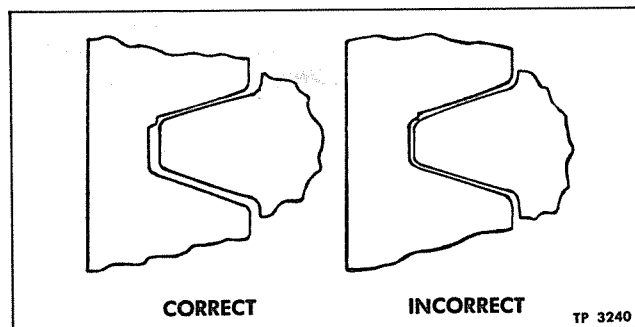
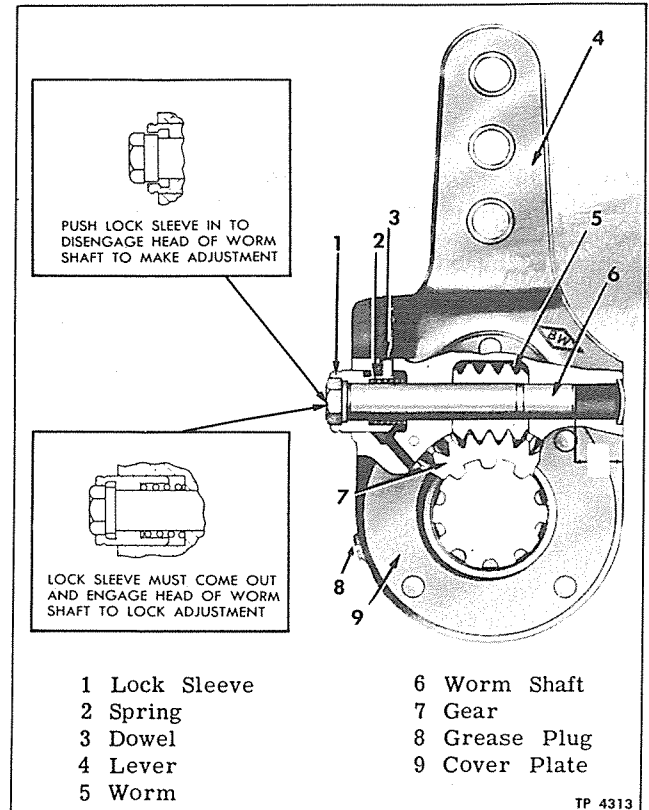

Figure 3—Worn Tooth Cross Section
Figure 6—Type 25 Slack Adjuster
form running contacts due to wear on teeth. Therefore, the original shim pack (39) plus one .005" shim should be maintained to check backlash. Figure 6 - page 59, shows typical method of checking backlash.
In the event that backlash exceeds maximum tolerances, reduce backlash only in the amount that will avoid overlap of worn teeth as shown in figure 3. Smoothness or roughness can be noted by rotating drive gear. If a slight overlap, as illustrated in figure 3 exists, rotation will be rough. Generally, when original gears are reinstalled, tone should be satisfactory. When new gears are to be installed, differential bearings and drive pinion bearings must be in proper adjustment before any attempt is made to adjust backlash. Check backlash with dial indicator as shown in figure 6 - page 59, and adjust to obtain 0.006 - 0.012" lash as follows:
This slack adjuster incorporates a lock sleeve on the worm shaft to assure a positive lock of the brake adjustment (fig. 6). When adjusting rear brakes, lock sleeve must be pushed in before worm shaft can be turned. Make sure sleeve is pushed in far enough to clear hex end of worm shaft before turning shaft.
Type RB slack adjuster covered in X-4711 is used only at front brakes on PD-4151. Slack adjuster used at rear brakes is type 25-2, typically illustrated in figure 6. Slack adjuster used has a curved lever arm (body) instead of straight lever arm shown. Slack adjuster "Serviceability Test" and "Replacement" as given on page 97 apply to type 25-2. The following procedure covers disassembly, inspection, and assembly.
SLACK ADJUSTER DISASSEMBLY (Fig. 6)
SLACK ADJUSTER ASSEMBLY (Fig. 6)
worm and body, making sure the groove in lock sleeve is aligned with pin in body. Press shaft in until small end of shaft is 9/16" from edge of body, as shown in figure 6. Install new welch plug in worm shaft bore.